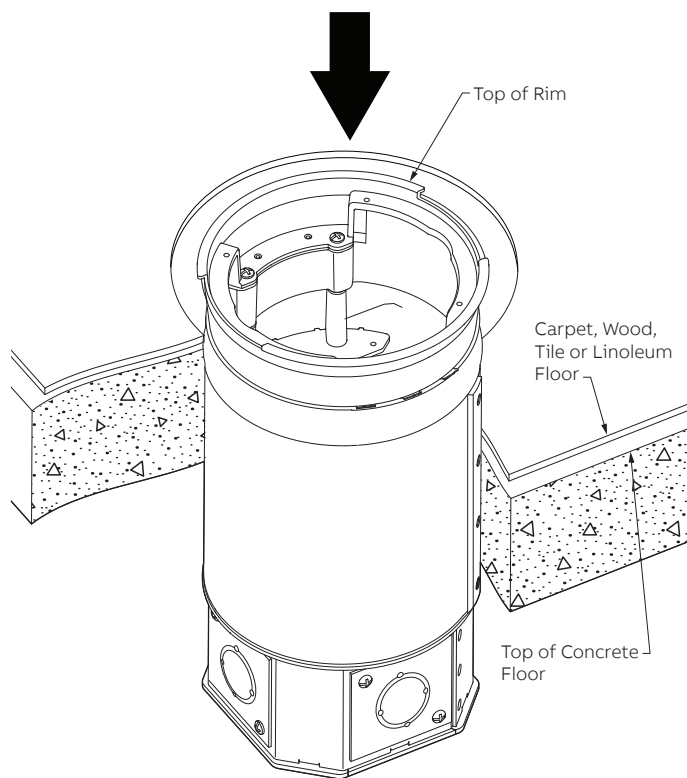

Figure 16
- 6.3 Insert Poke-Through into hole and push down until TOP RIM contacts the concrete floor. (See Figure 16).